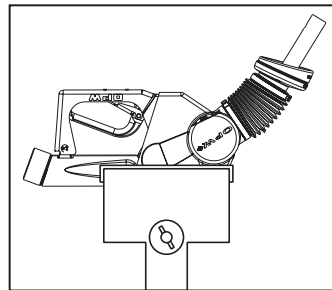

FIGURE 1
- 1) Clamp the nozzle in a vise or other suitable holding device. (Figure 1)